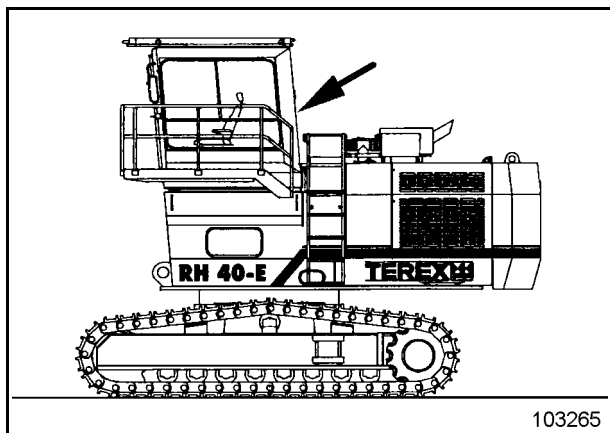
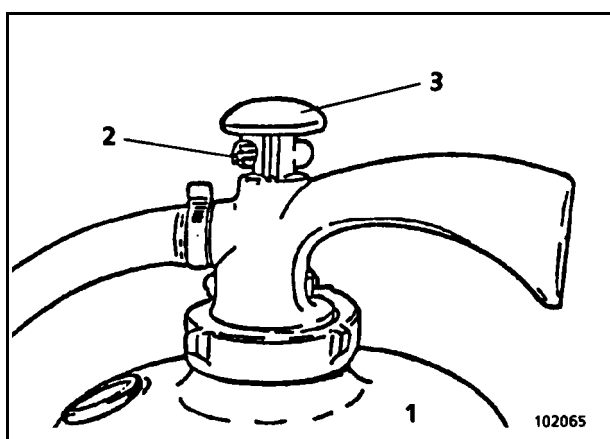

Fig. 2-17:
Fig. 2-18:
The excavator may be equipped with a fire-extinguisher (arrow, Fig. 2-17: and Fig. 2-18:).
- Pull out safety pin (2, Fig. 2-18:).
- Press down button (3) firmly and release.